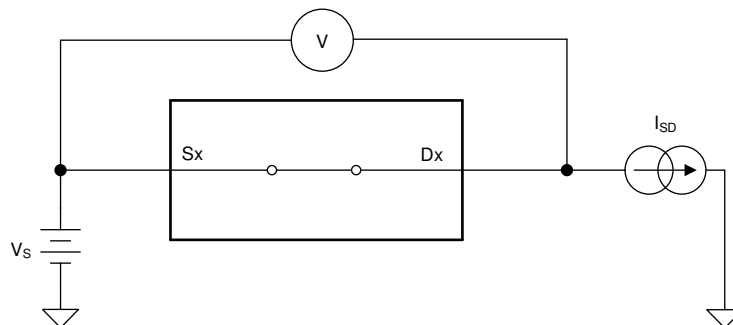

图 7-1. On-Resistance Measurement Setup
The on-resistance of a device is the ohmic resistance between the source (Sx) and drain (Dx) pins of the device. The on-resistance varies with input voltage and supply voltage. The symbol R_{ON} is used to denote on-resistance. The measurement setup used to measure R_{ON} is shown in 图 7-1. Voltage (V) and current (I_{SD}) are measured using this setup, and R_{ON} is computed with $R_{ON} = V / I_{SD}$ as shown in the following figure.